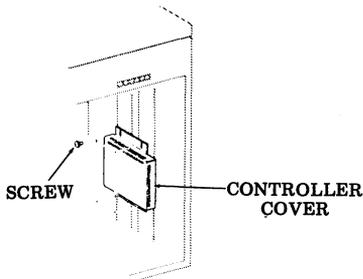

Fig. 16—Controller Removal
- (a) Loosen four screws securing controller cover to inside of forms access printer cabinet approximately two turns (Fig. 16).